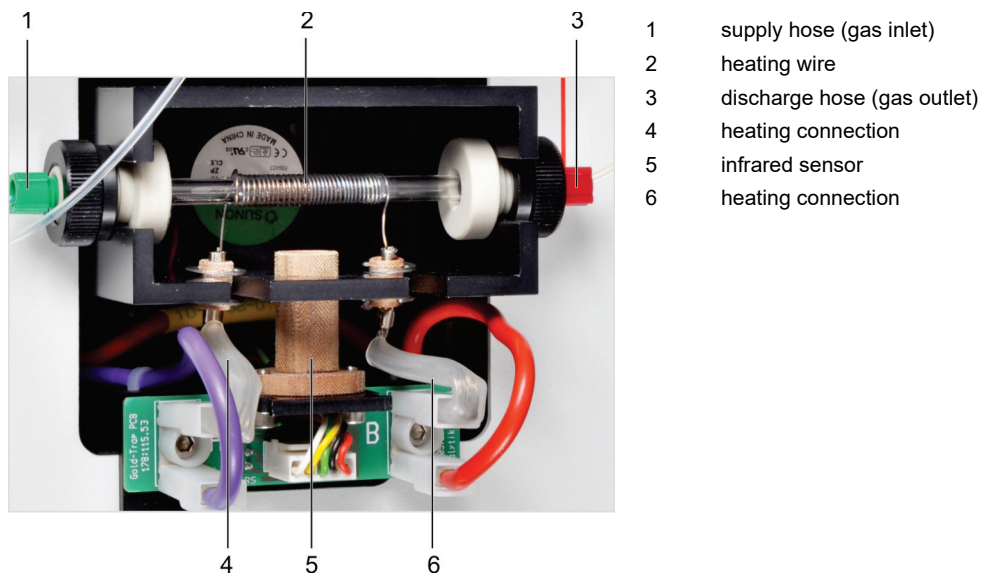

Figure 14 Connections at the gold collector
2. Pull the plug-in contacts of the heating coil (4 and 6, Figure 14) off the circuit board.
5. Insert the gold collector into the compartment whilst simultaneously inserting the isolation sleeves on the heating wire i(2, Figure 14) into the groove.